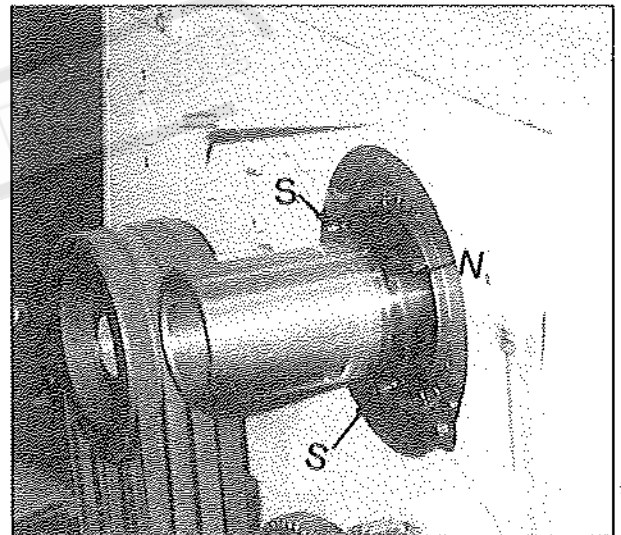

Fig.28
To adjust the bearing, open the end cover, loosen the bearing cover and release two (2) set screws (S) on the thrust nut (N) (Fig.28).